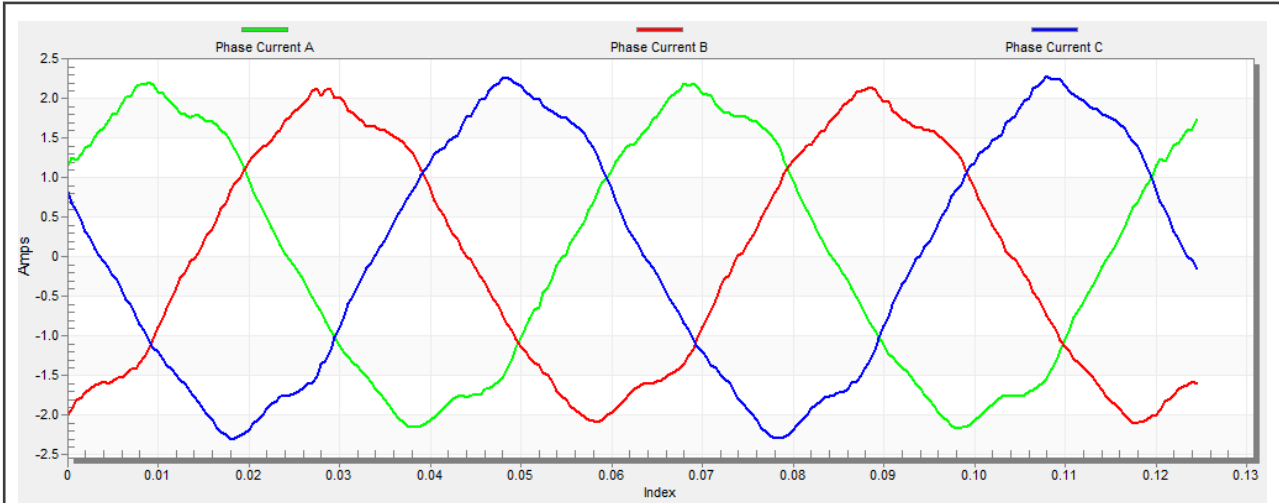

Figure 24. Phase currents
- The optimal ratio for the V/Hz profile can be found by changing the V/Hz factor directly using the "M1 V/Hz factor" variable. The shape of the motor currents should be close to a sinusoidal shape (Figure 24). Use the following equation for calculation V/Hz factor: